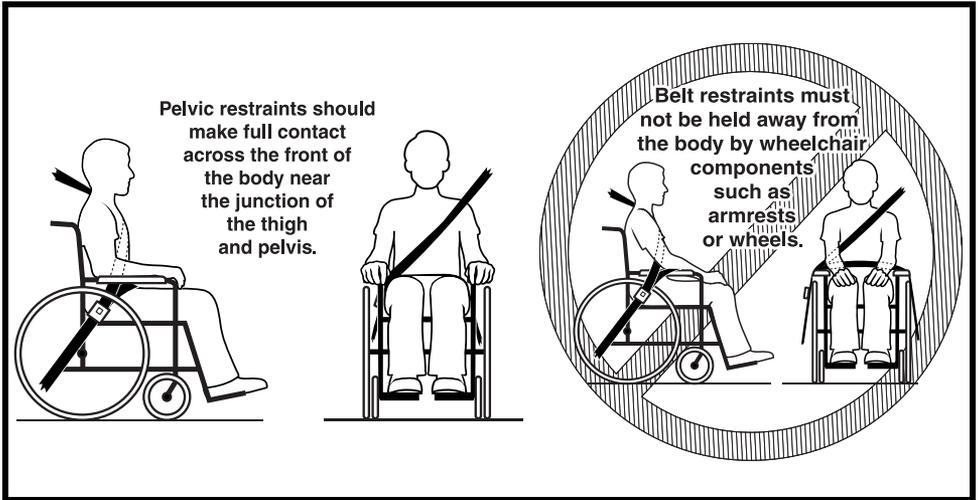

Figure 6. Proper Pelvic Belt Placement
- Some wheelchair components, like armrests and wheels, can interfere with proper belt fit. It may be necessary to insert the belt between the armrest and the seatback or through openings between the backrest and seat in order to avoid placing the pelvic belt over the armrest. **See figure 6.**